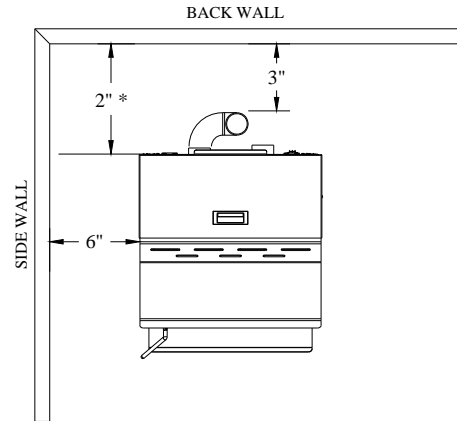

Figure 1
The FP-45 has been tested and listed for installation in regular and mobile homes. (refer figure 1 & 2)
1. Position stove, adhering to clearances shown in Figures 1 & 2.
5. Position the stove, adhering to the clearances in Figures 1 & 2.
1. Position the stove, adhering to the clearances in Figures 1 & 2. Mark the center of the hole where the pipe is to pierce the masonry chimney.